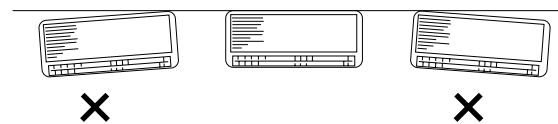

Fig. 3-20
- (2) Double check with a carpenter's level or tape measure that the panel is level. This is important to install the unit properly. (Fig. 3-20)
- (3) Make sure the panel is flush against the wall. Any space between the wall and unit will cause noise and vibration.